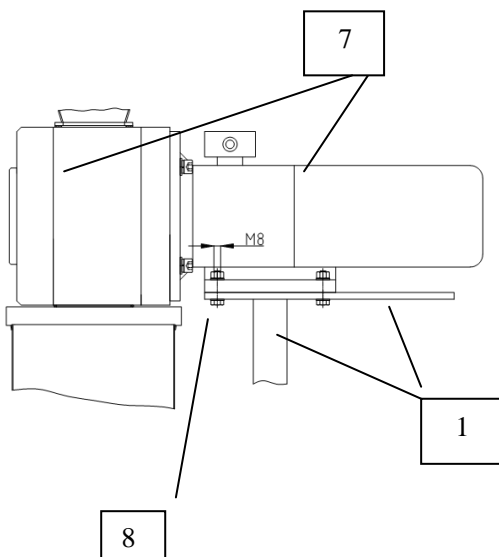

Figure 4.2
- 7 the CM 100 body placed in the body seat bracket 1, Figure 4.2